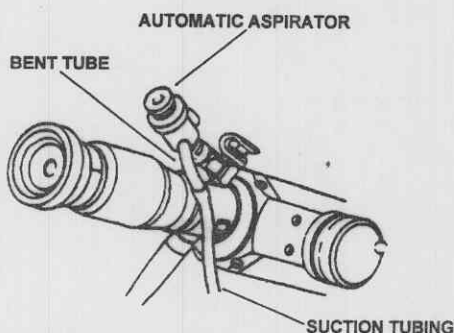

Figure 2-8. Attaching suction tubing.
h. Attach suction tubing to the end of the bent tube on the automatic aspirator. Refer to figure 2-8.